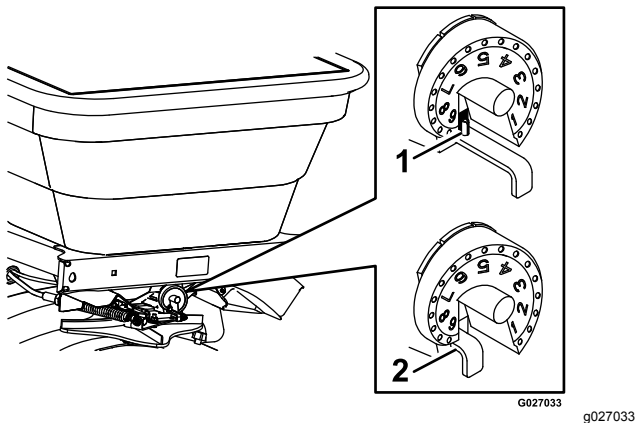

Figure 49
- A. Pull rate gate linkage outward (Figure 49).
- B. Rotate the drop rate cam until the slot aligns with the linkage (Figure 49).
- C. Push in the linkage (Figure 49).